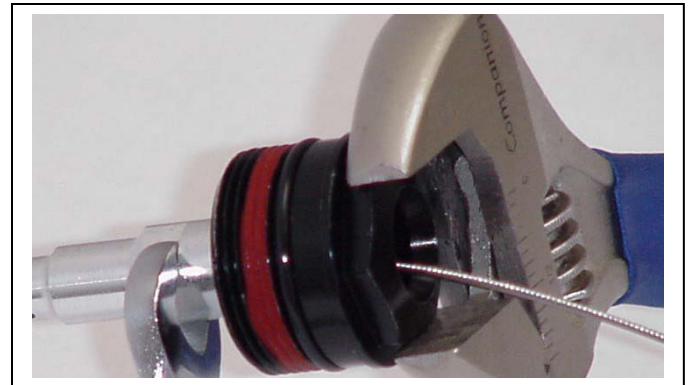

Figure 5
2. Once you have the upper assembly out of the fork, use the adjustable wrench and the 12mm Open End wrench to unscrew the top cap from the shaft of the assembly. Refer to Figure 5 at the right.